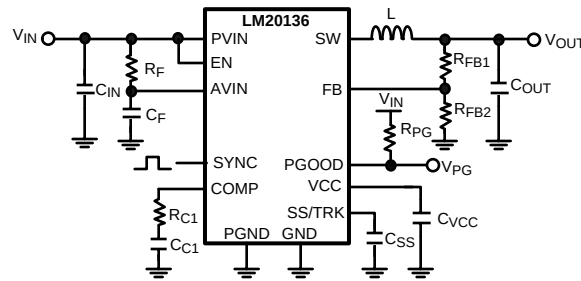

Figure 30. Typical Application Circuit
The LM20136 switching regulator features all of the functions necessary to implement an efficient low voltage buck regulator using a minimum number of external components. This easy to use regulator features two integrated switches and is capable of supplying up to 6A of continuous output current. The regulator utilizes peak current mode control with nonlinear slope compensation to optimize stability and transient response over the entire output voltage range. Peak current mode control also provides inherent line feed-forward, cycle-by-cycle current limiting and easy loop compensation. The internal oscillator can synchronize up to 1.5 MHz minimizing the inductor size while still achieving efficiencies up to 96%. The precision internal voltage reference allows the output to be set as low as 0.8V. Fault protection features include: current limiting, thermal shutdown, over voltage protection, and shutdown capability. The device is available in the HTSSOP package featuring an exposed pad to aid thermal dissipation. The LM20136 can be used in numerous applications to efficiently step-down from a 5V or 3.3V bus. The typical application circuit for the LM20136 is shown in Figure 30 in the design guide.
This section walks the designer through the steps necessary to select the external components to build a fully functional power supply. As with any DC-DC converter numerous trade-offs are possible to optimize the design for efficiency, size, or performance. These will be taken into account and highlighted throughout this discussion. To facilitate component selection discussions the circuit shown in Figure 30 below may be used as a reference. Unless otherwise indicated all formulas assume units of Amps (A) for current, Farads (F) for capacitance, Henries (H) for inductance and Volts (V) for voltage.
To prevent high frequency noise spikes from disturbing the sensitive analog circuitry connected to the AVIN and AGND pins, a high frequency RC filter is required between PVIN and AVIN. These components are shown in Figure 30 as C_F and R_F . The required value for R_F is 1Ω. C_F must be used. Recommended value of C_F is 1.0 μF. The filter capacitor, C_F should be placed as close to the IC as possible with a direct connection from AVIN to AGND. A good quality X5R or X7R ceramic capacitor should be used for C_F .